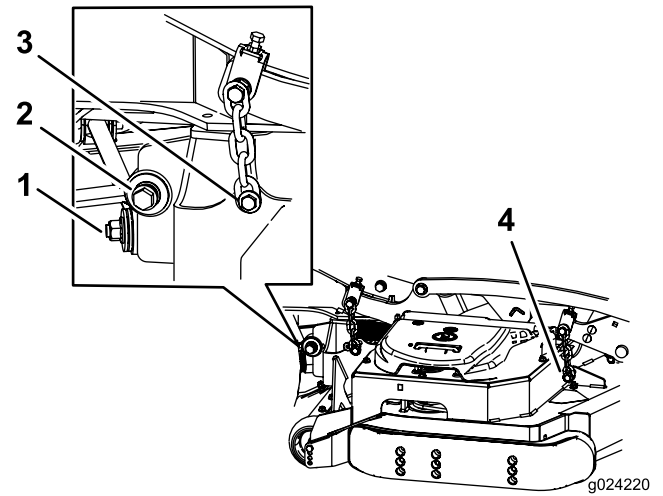

Figure 104
- Remove and retain the hardware on both sides of the deck as shown in Figure 104.